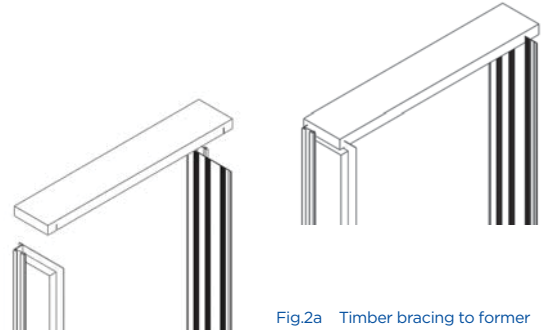

Fig.2a Timber bracing to former
- In first fix application the cavity closer should be nailed to the jamb/sill of the door or window frame and the whole assembly built in as work proceeds. Alternatively the closer can be built in sections using fixing ties as work proceeds or pre built to act as an opening former by using a timber brace (fig.2a) and corner forms (fig.2b)